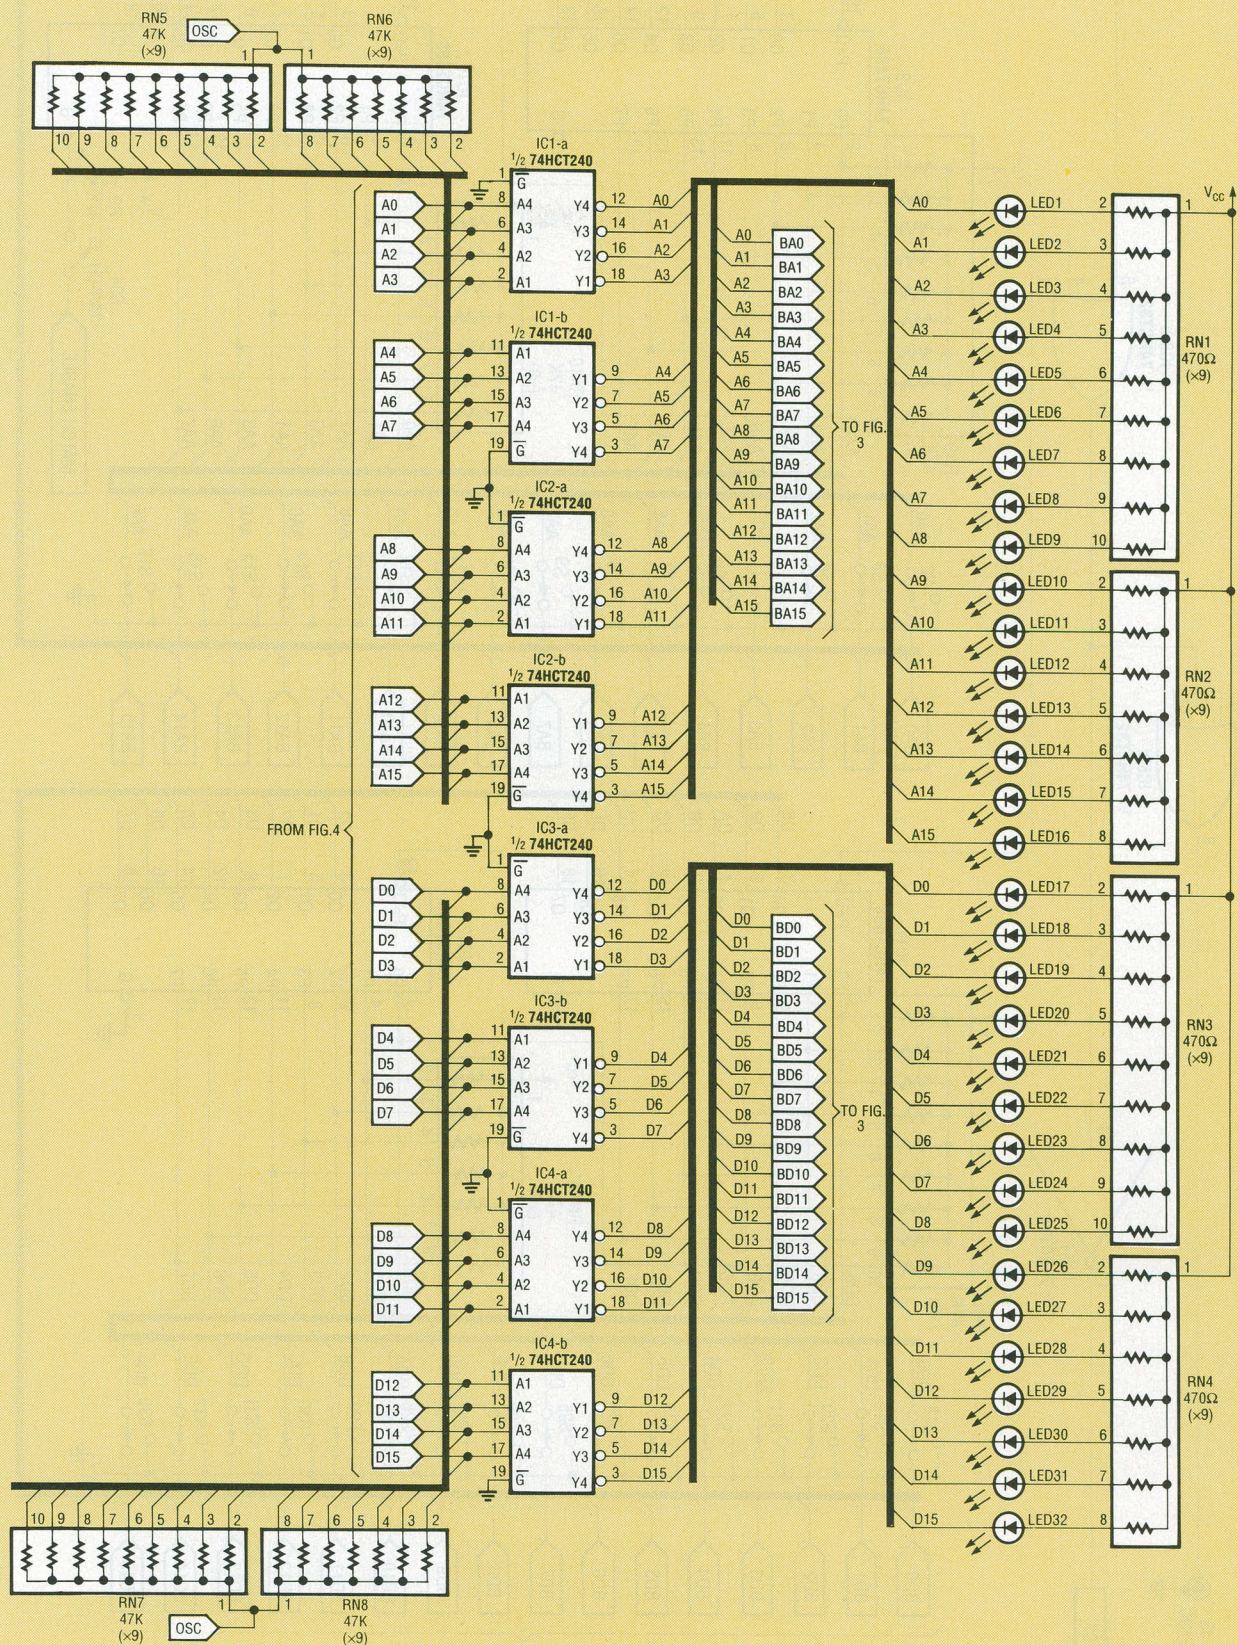

FIG. 1—THE DISPLAY CIRCUIT consists of several octal inverting buffers that drive discrete LED's to display 16 address lines and 16 data lines.
**Display Circuit.** The display circuit, shown in Fig. 1, consists of inverting buffers IC1-IC4. Address and data lines from the target system feed the buffers via the IC clip. The buffers feed address and data buses used by the rest of the system. In addition, the output of each buffer drives the cathodes of the display LED's via 470-ohm current-limiting resistors (those resistors are contained in resistor networks RN1-RN4).
The output of the cascaded match logic feeds into the single-step circuit (shown back in Fig. 1) and, when enabled by S34, can be used to stop the micro-processor on a specific pattern. Note also that the *MATCH* signal is buffered by IC8-c and delivered to J3 for use as a sync or trigger signal.
The FCC regulations are organized into a hundred separate *parts*. Figure 1 shows you the more popular parts for topics of any hardware-hacking interest. For instance, computers and peripherals have to follow part 15. Telephone interconnection has to obey part 68. Citizens band is part 95, and amateur radio is part 97. And those new direct-broadcasting satellites are now part 100.